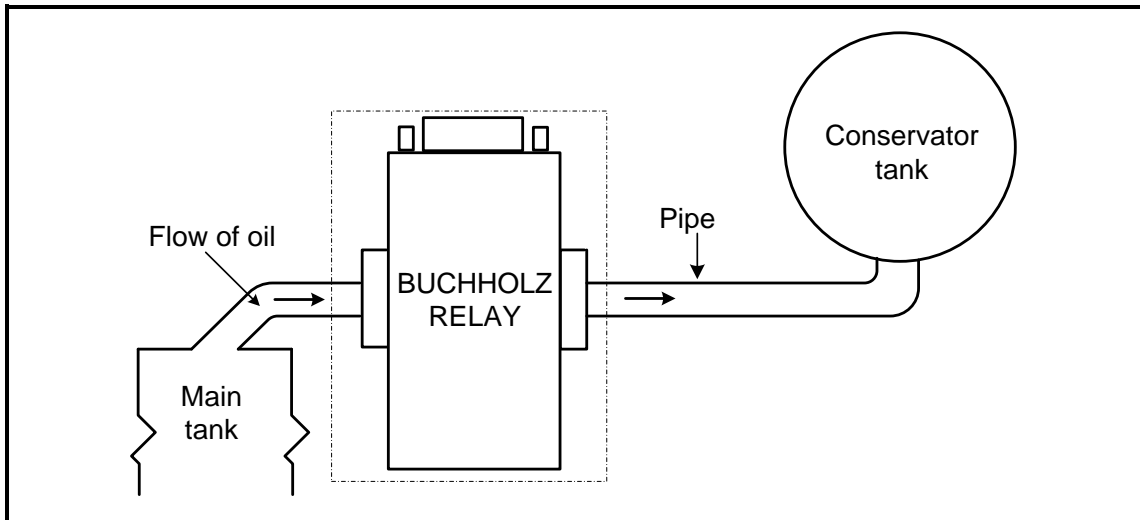

FIGURE 4.6: BUCHHOLZ RELAY
4.6 Refer to FIGURE 4.6 below and describe how the Buchholz relay would protect a transformer under minor and major faulty conditions.